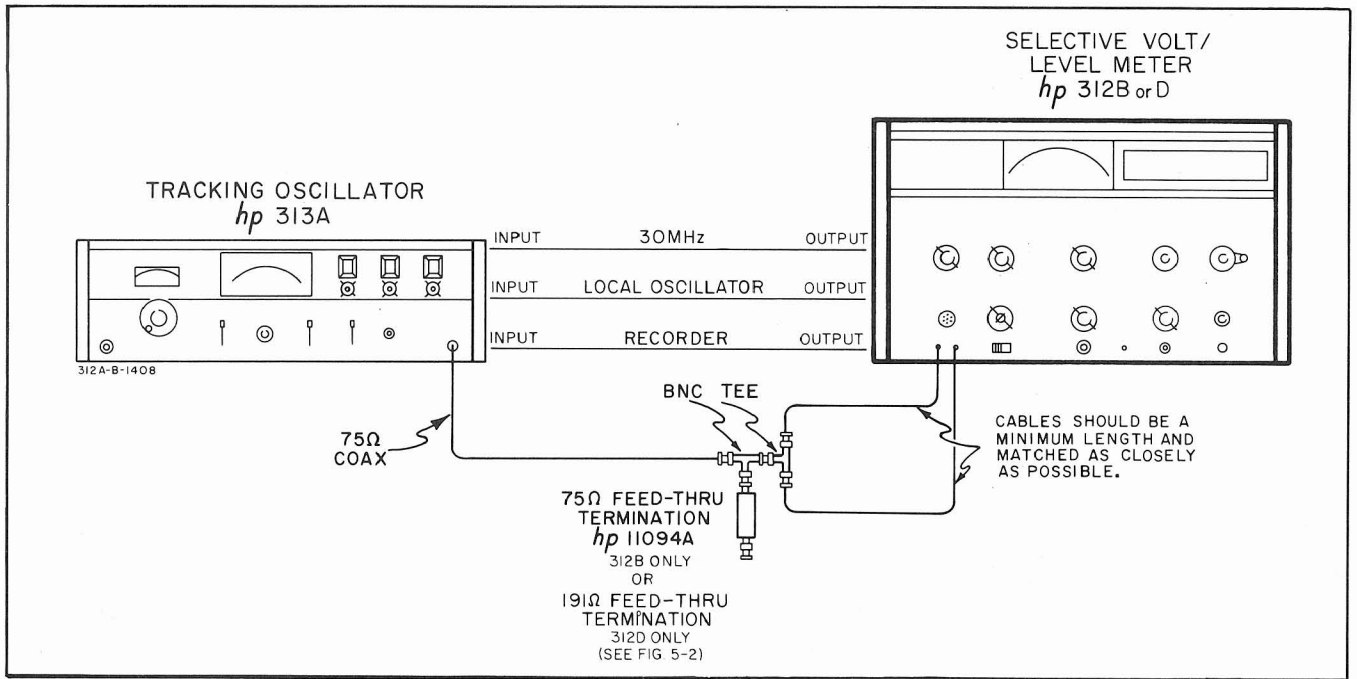

Figure 5-6. Common Mode Rejection – 312B/D.
a. Connect the 312B/D and 313A as shown in Figure 5-6. On the 312D, use WECO-to-BNC adapters (-hp- Part No. 1250-0591) and the 191 ohm feedthru termination shown in Figure 5-2.